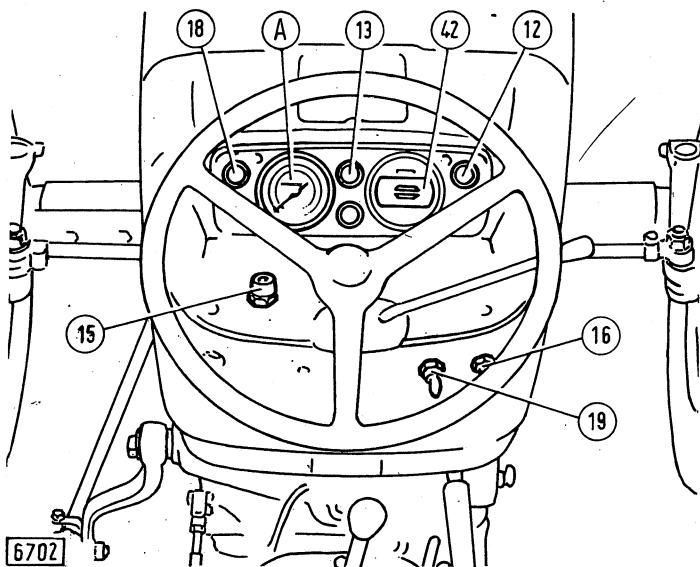

Fig. 20 - Dashboard accessories.
- a control push-button (16, Fig. 20) on the instrument panel;